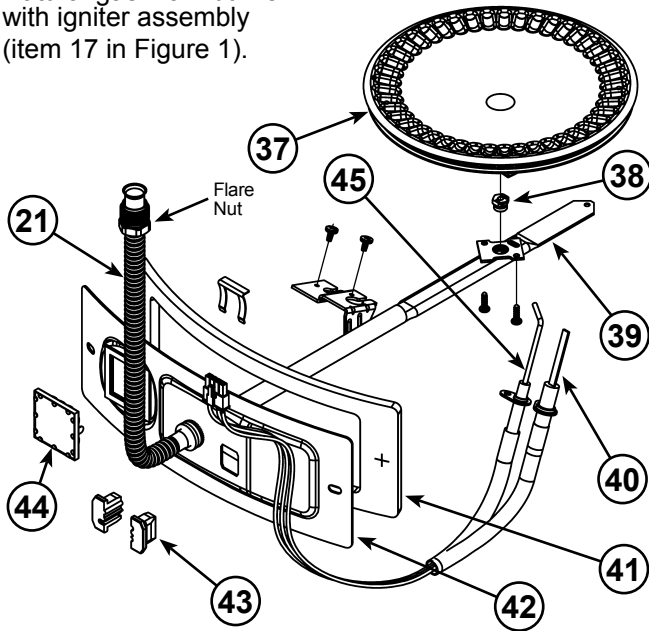
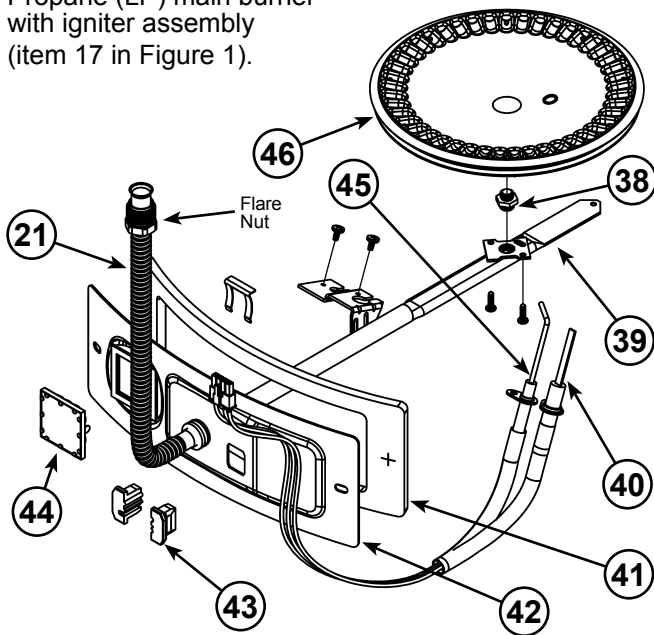
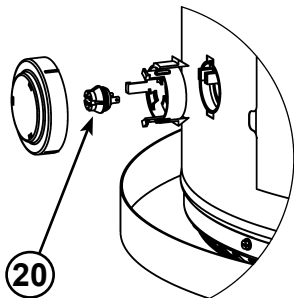
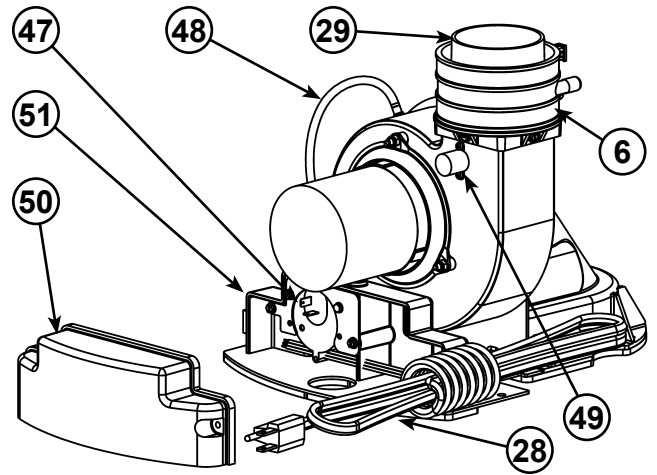

Figure 3
Figure 4
Figure 5
Figure 6
| 1 Vent Termination Elbow with Rodent Screen | 17 Manifold Door Assembly (behind outer door) (see Figure 3 (NG) or Figure 4 (LP)) | 36 *Thermal Expansion Tank (required for all closed systems) |
| 2 *Vent Pipe | 18 *Floor Drain | 37 Aluminum Burner (see Figure 3) |
| 3 *Vent Pipe Coupling (if required) | 19 *Metal Drain Pan | 38 Gas Orifice (see Figure 3) |
| 4 CPVC Vent Pipe (5 ft. supplied) | 20 Flammable Vapor Sensor (under cover) (see Figure 5) | 39 Gas Manifold (see Figure 3) |
| 5 *CPVC Vent Pipe Elbow (long radius) | 21 Flexible Manifold Tube (see Figure 3) | 40 Hot-Surface Igniter (see Figure 3) |
| 6 Gear Clamp (see Figure 6) | 22 *Sediment Trap/Dirt Leg | 41 Manifold Door Gasket (see Figure 3) |
| 7 T&P Valve | 23 *Ground Joint Union (gas connection) | 42 Manifold Door (see Figure 3) |
| 8 **Combo Heating System Supply Outlet (Optional) | 24 *Main Manual Gas Shut-off Valve | 43 Two Piece Grommet With Clip (see Figure 3) |
| 9 Cold-Water Inlet Nipple/Diptube | 25 *Gas Supply* | 44 Viewport (see Figure 3) |
| 10 * Discharge Pipe | 26 Baffle Assembly | 45 Flame Sensor Rod (see Figure 3) |
| 11 Gas Control Valve/Thermostat (Honeywell) | 27 Rating Plate | 46 Stainless Steel Burner (see Figure 4) |
| 12 Gas Valve Electronic Control Module And Cover (Honeywell) | 28 Blower with Power Cord (see Figure 6) | 47 Air Switch (inside box) (see Figure 6) |
| 13 **Combo Heating System Return Inlet (Optional) | 29 *Rubber Coupling (see Figure 6) | 48 Air Tubing (see Figure 6) |
| 14 ***Control Harness | 30 *Inlet Water Shut-off Valve | 49 Blower High Limit Switch (see Figure 6) |
| 15 Drain Valve | 31 *Union (water connection) | 50 Junction Box Cover (see Figure 6) |
| 16 Outer Gas Door | 32 Hot-Water Outlet Nipple | 51 Junction Box (see Figure 6) |
This device is located on the blower (see Figure 6, item 49) and limits the maximum temperature of the blower. If the blower temperature rises above the temperature setting, the switch opens causing the heater to shut down. The switch will auto reset once the temperature drops sufficiently.
This device, located in the junction box, monitors the air pressure produced by the blower. In the event that the exhaust venting becomes blocked or sufficiently restricted, the switch will shut the heater down (see Figure 6, item 47). If the water heater has not gone into a soft lockout condition, the heater will restart after the blockage is removed (see “Resetting The Heater Control”).